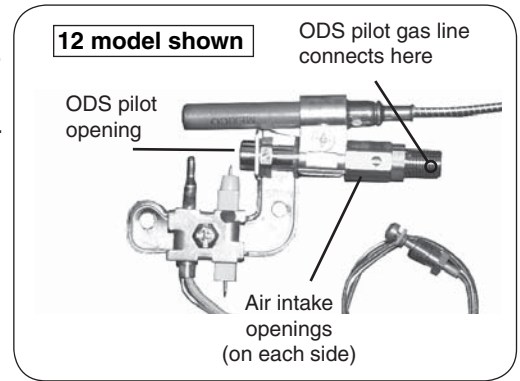

Fig. 24-1
1. Turn the burner system to the **OFF** position and allow it to cool. Inspect the ODS pilot area (see Fig. 24-1) for any visual contamination or debris (usually lint, hair, spider webs, or small insects). Lightly brush off all external surfaces while vacuuming loosened debris from the ODS pilot opening. **Be careful not to brush any foreign material into the ODS pilot opening.**
2. Clean out the air intake openings (see Fig. 24-1) by lightly brushing around the openings while vacuuming.
4. If the ODS pilot flame does not burn as indicated in the instructions, extinguish the ODS pilot by turning the valve to the full **OFF** position. Using a compressed air duster, insert the flexible nozzle through the air intake openings, ensuring that the nozzle is pointed toward the ODS pilot opening (see Fig. 24-1). Blow air through the intake openings to clear out any debris that may be in the system.
5. Relight the ODS pilot and inspect it to be sure it is burning as shown in the instructions. If not, extinguish the ODS pilot and **turn off the gas supply to the burner system.** Using an adjustable or a 1/4" wrench, disconnect the ODS pilot gas line (see Fig. 24-1) from the valve.